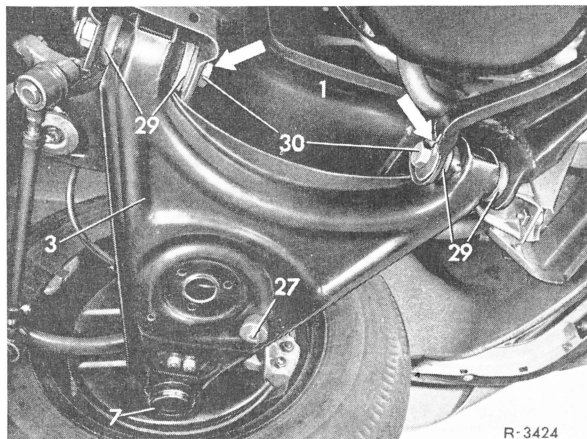

Fig. 2
3 Mark position of cam bolt (30) in relation to front axle carrier on bearing of lower control arm (refer to arrows) and loosen hex. nuts (Fig. 2).